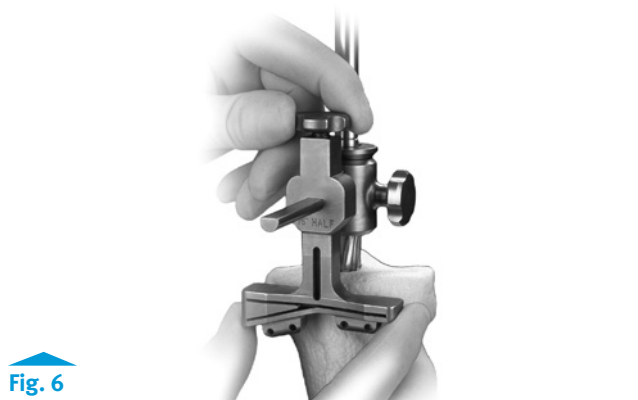

Fig. 6
- Slide the appropriate Tibial Cutting Guide (wedge or block) onto the Tibial Boom until it contacts the anterior tibia, and tighten the thumb screw (Fig. 6).